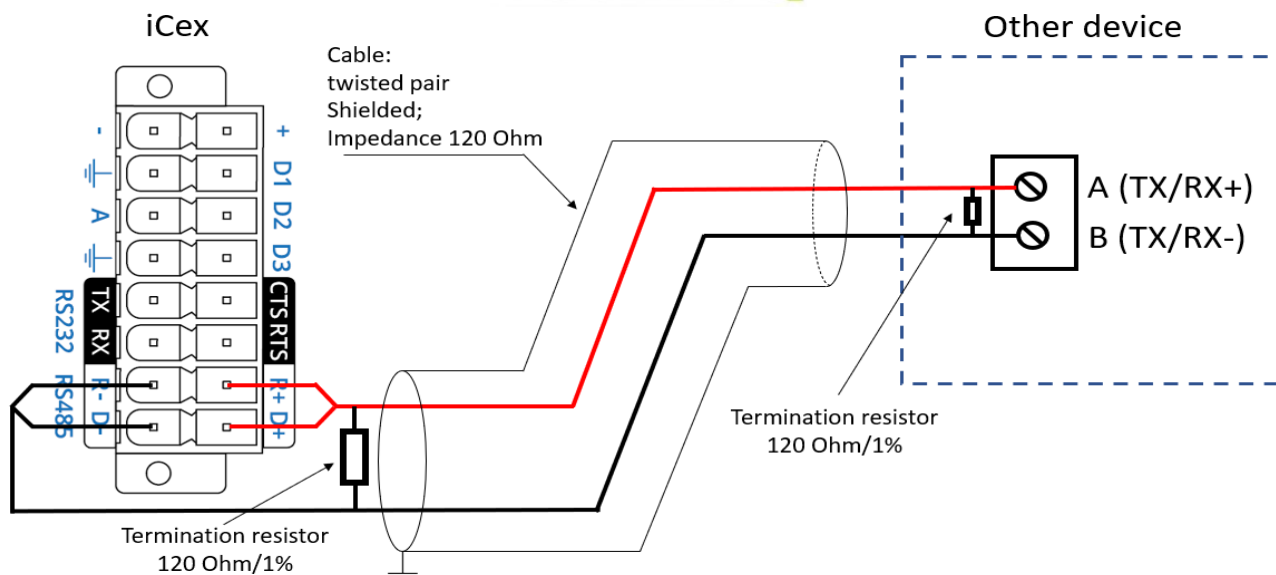

Fig. 5 RS485 2-wire connection to one device
- **Termination** needs to be applied at both ends of the cable. In iCex side there needs to be precise resistor (1% or less) with the same value as the impedance of the cable (see Fig. 5). Usually it's 120 Ohms. For termination in other devices at the end of the cable check other devices user manuals. If nothing special is stated, use the same termination as in iCex.